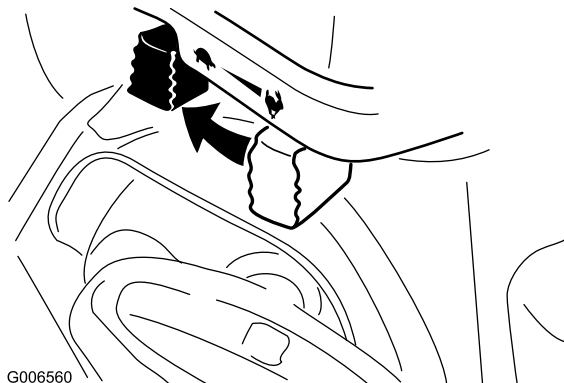

Figure 27
1. Move the throttle to the Slow position, and then to the Stop position (Figure 27).